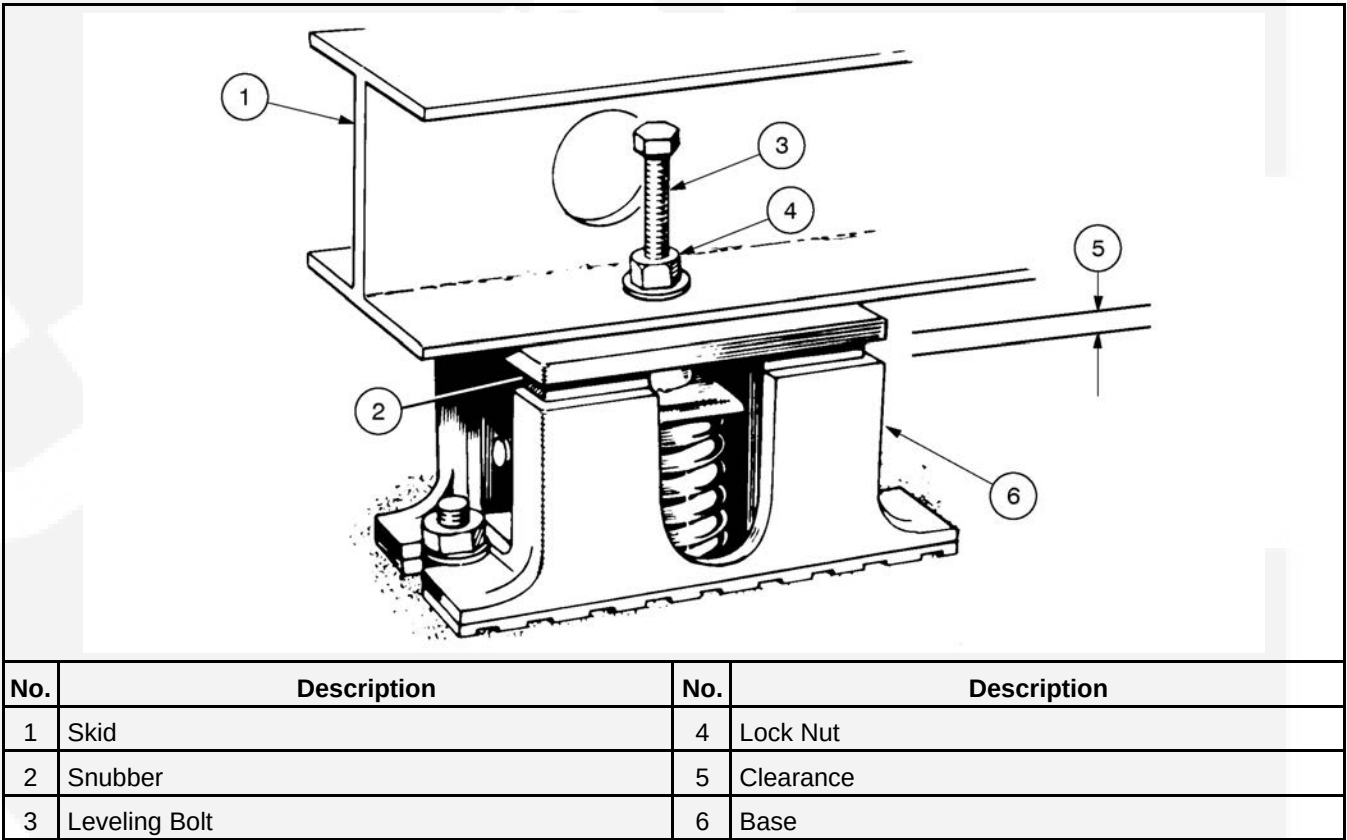

FIGURE 5. VIBRATION ISOLATOR INSTALLATION
1. Place the vibration isolators (see Figure 5) on the generator set support structure. The isolators should be shimmed or grouted to make sure that all of the isolator bases are within 0.25 inch (6 mm) elevation of each other. The surface that the isolator bases rest on must also be flat and level.